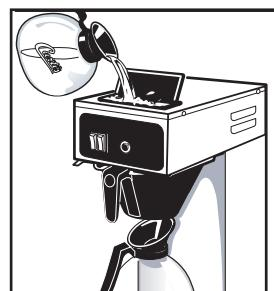

Figure 3. Pour cold water into pour hole.
3. When the green Ready to Brew light comes on, add 64 ounces or one decanter of room temperature water into opening on the top cover (fig. 3.). Brewing will take about three minutes.
NOTE: You should have at least two decanters for brewing coffee. One for pouring water, the other to brew coffee into. Airpot brewers will require a pitcher that holds 74 ounces (see figure 3).